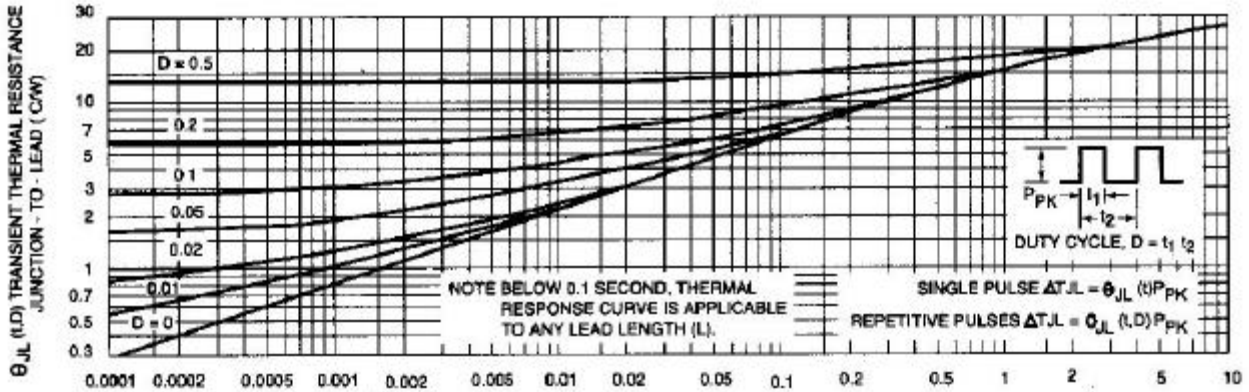
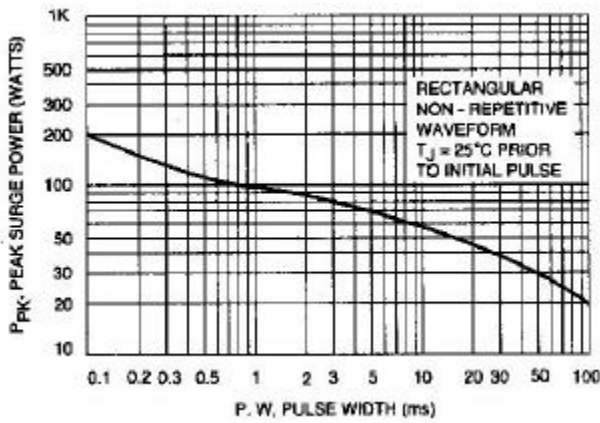
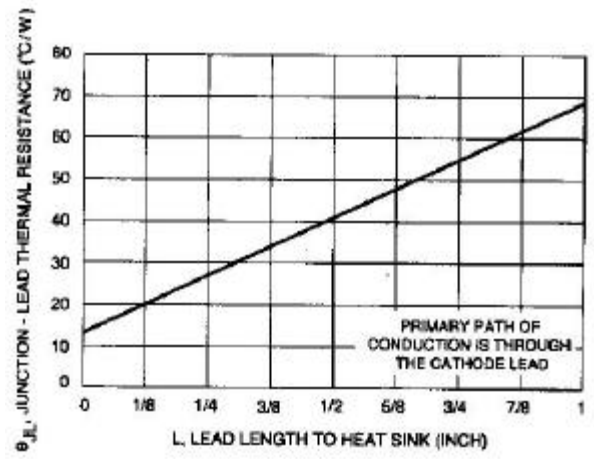

Fig. 2-TYPICAL THERMAL RESPONSE L
Fig. 3-MAXIMUM SURGE POWER
Fig. 10-TYPICAL THERMAL RESISTANCE
4. SURGE CURRENT ( $I_r$ ) NON-REPETITIVE - The rating listed in the electrical characteristics table is maximum peak, non-repetitive, reverse surge current of 1/2 square wave or equivalent sine wave pulse of 1/120 second duration superimposed on the test current,  $I_{ZT}$ , per JEDEC standards, however, actual device capability is as described in Figure 3.
$T_{JL}$  is the increase in junction temperature above the lead temperature and may be found from Figure 2 for a train of power pulses or from Figure 10 for dc power.
Data of Figure 2 should not be used to compute surge capability. Surge limitations are given in Figure 3. They are lower than would be expected by considering only junction temperature, as current crowding effects cause temperatures to be extremely high in small spots resulting in device degradation should the limits of Figure 3 be exceeded.